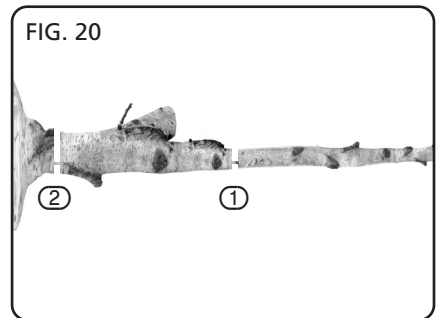

FIG. 20
11.2 WORKING TECHNIQUES (FIGS.20 - 21)